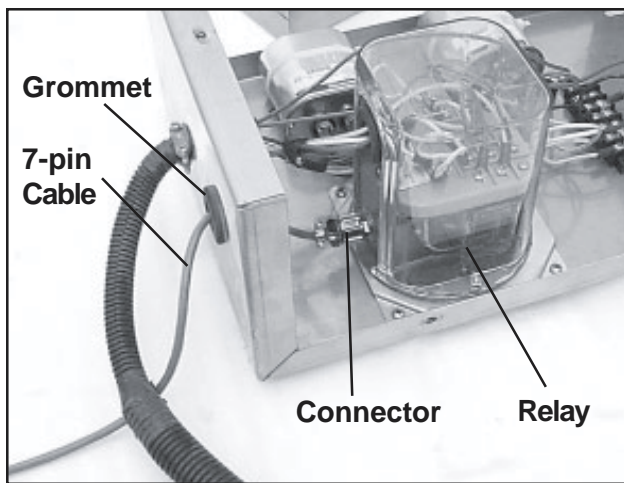

Figure 126. 7-pin Cable Connection to Relay
10. Rotate the outer collar of the connector counterclockwise until the connector is loose (Figure 126).